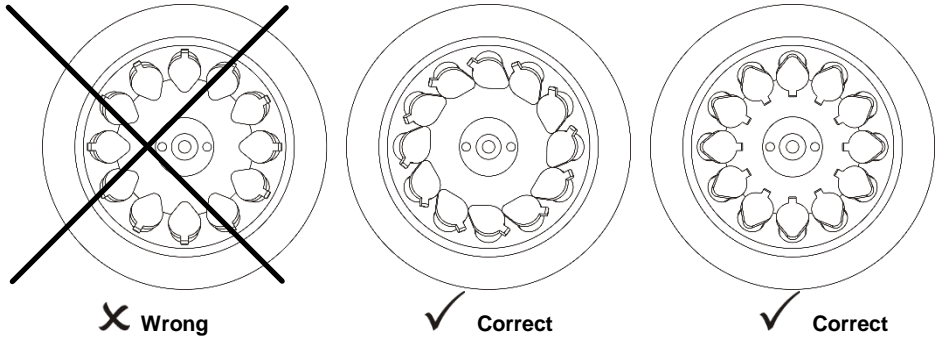

Figure 4. Loading spin columns
- When loading spin columns, ensure that spin column hinges are not pointed outwards. Otherwise, rotor lid cannot close properly. See figure 4 for explanation.
When loading spin columns, ensure that spin column hinges are not pointed outwards. Otherwise, rotor lid cannot close properly. See figure 4 for explanation.